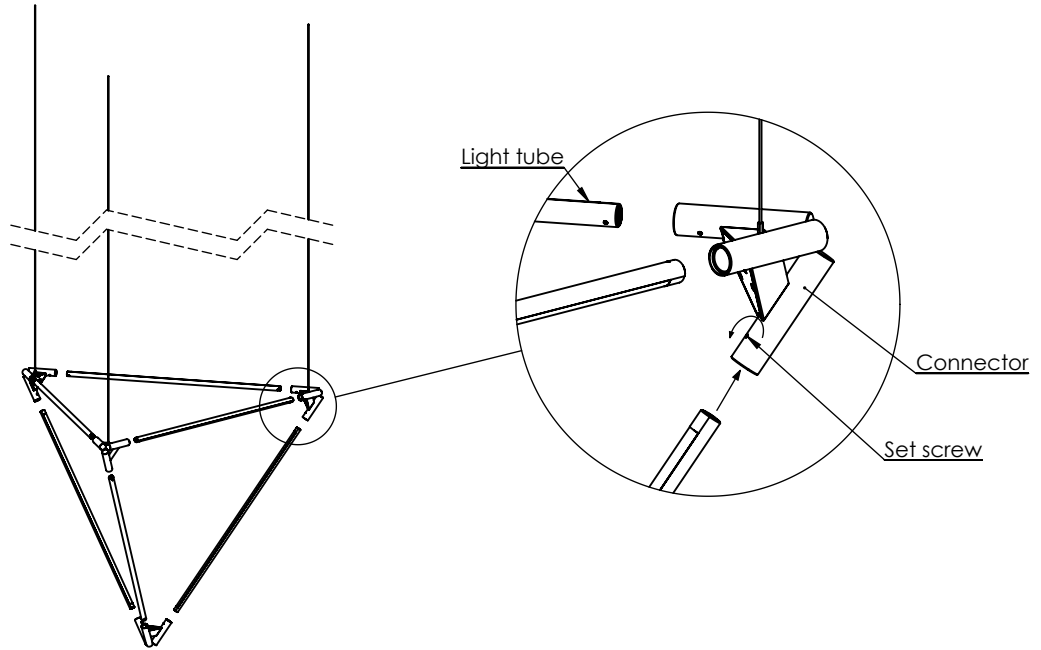

FIGURE 4
*NOTE: Figure 4 shows TETAHEDRON as an example. Please install the correct number of light tubes according to your fixture's configuration. The instructions below are same for all SOLIDS.*
2. Insert Light tubes into the connectors as shown in FIGURE 4.